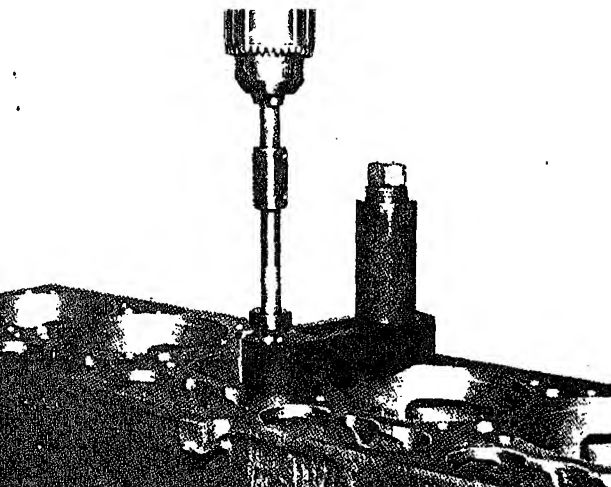

Fig. 1-1-16. Reaming eroded water hole
6. Use Hand Driver to turn the reamer, Fig. 1-1-16. This driver is loosely pinned to prevent up and down side thrust of reamer while it is being turned.
1. Insert hold-down adapter of into cylinder block cap screw hole, Fig. 1-1-16.